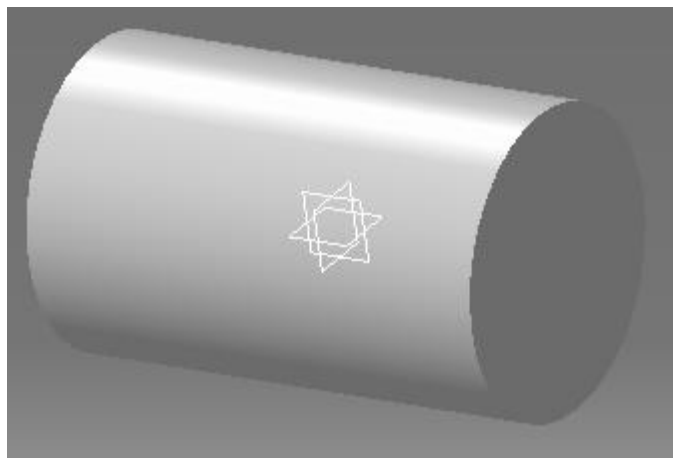

Figure 1.4
- 1.11 Select the **OK** button. Notice that the circle has been extruded 1 inch in both directions, reference figure 1.4